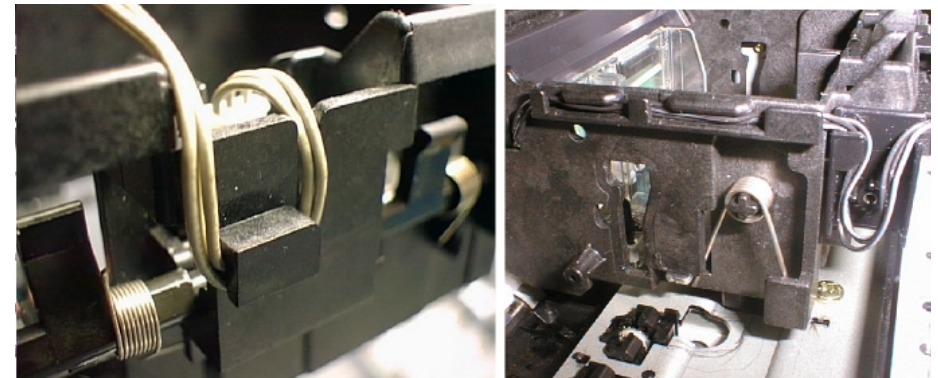

Figure 4-47. Placing the I/C Detector Cables
- When installing the PG Lever, refer to the Figure 4-47.
- Make sure that the I/C Detector Cables are placed in the gutters Figure 4-47.